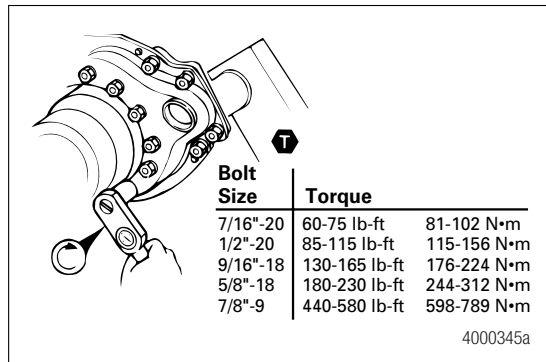

Figure 4.4
1. Tighten all spider bolts to the correct torque. Figure 4.4.
3. If the camshaft bracket has been removed, install the chamber bracket seal and bracket onto the spider. Tighten the capscrews to the correct torque. Figure 4.4.